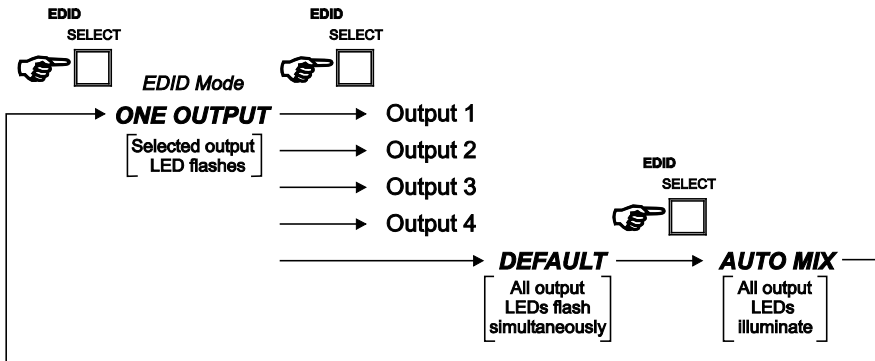

Figure 3: EDID Modes
To cycle between the different modes, press the EDID SELECT button as shown in Figure 3.
3. Press the **EDID SELECT** button to enter the **ONE OUTPUT** mode as shown in Figure 3.
3. Enter the AUTO-MIX mode as shown in Figure 3. The OUTPUT STATUS LEDs illuminate.